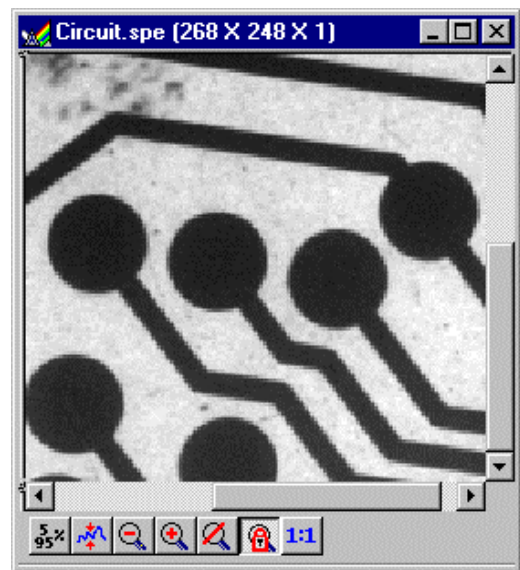

Figure 101. *Circuit.spe* expanded to show defined region
2. Click on the  (Zoom In) button. The view will change so that only the selected region is displayed as shown in Figure 101.